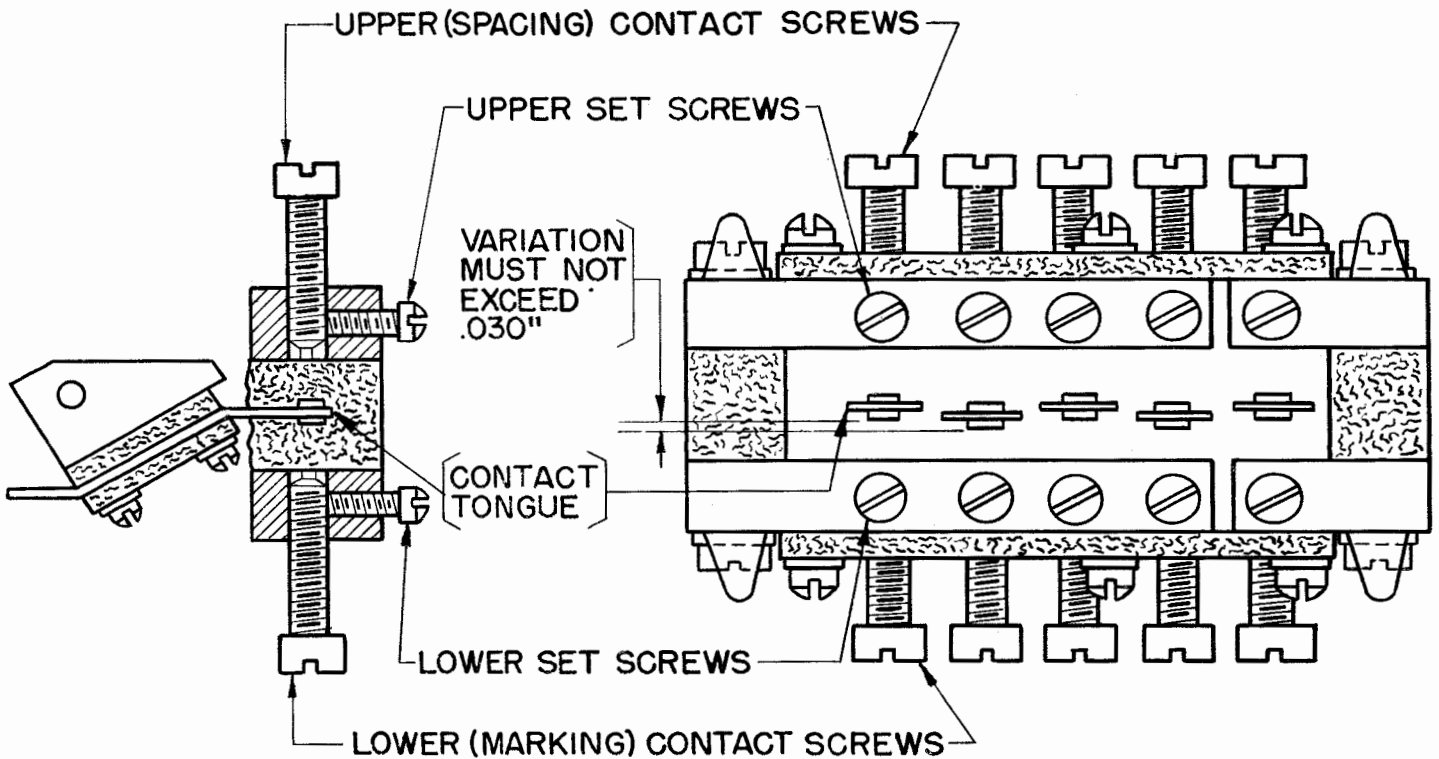

Figure 26
3.14 Contact Tongues Alignment: The contact tongues shall be straight and parallel (both crosswise and lengthwise) to the upper contact screw bridge. The variation in alignment shall not exceed 0.030 inch. To check, back off contact screws. (See Figure 26.)
To Adjust: Loosen the upper and lower setscrews and back off the upper contact screws (Figure 26). Then adjust the lower contact screws to meet the requirement. Tighten the lower setscrews. Recheck the minimum 0.002 inch clearance [3.15(c)] between the contact-lever bail and the lobe of each contact lever. If this clearance does not exist, refine the lower contact screw adjustments within the specified limits to obtain the desired clearance.